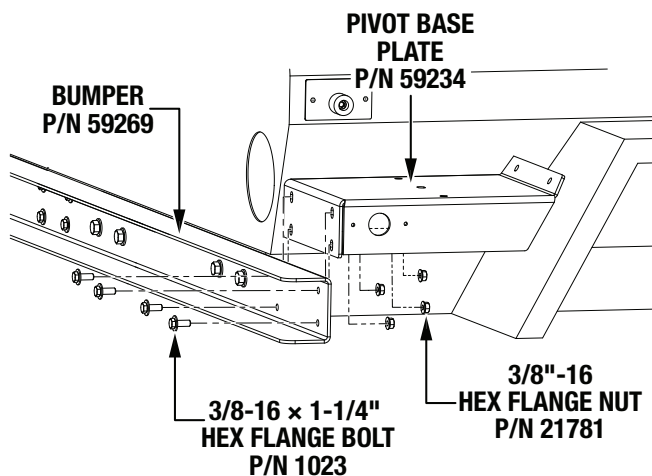

Figure 14. Pivot Base Plate Installation
1. Secure the pivot base plate (P/N 59234) to the end of the bumper (P/N 59269) with four 3/8-16 × 1-1/4" hex flange bolts (P/N 1023) and four 3/8"-16 hex flange nuts (P/N 21781). See Figure 14.